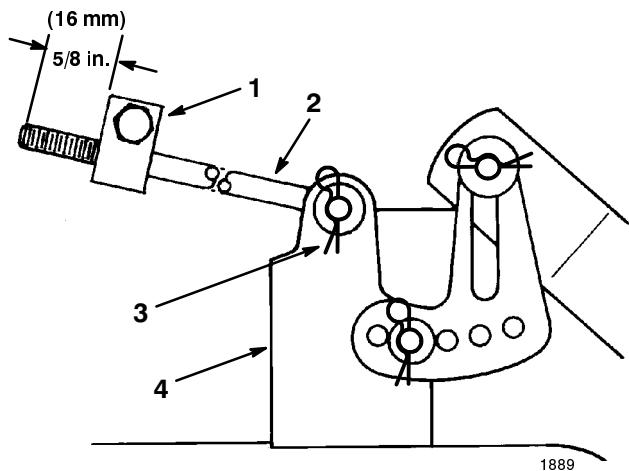

Figure 52
5. Measure the length of the rod extending out of the front of the adjusting block on the sides of the chassis (Fig. 52). If the rod length is not 5/8 in. (16 mm), remove the hairpin cotter and washer from the end of the rod (Fig. 52) and turn the rod until the 5/8 in. (16 mm) dimension is obtained. Then install the end of the rod into the hole in the mower mount and secure it with the washer and hairpin cotter. Repeat this procedure on the opposite side of the mower.